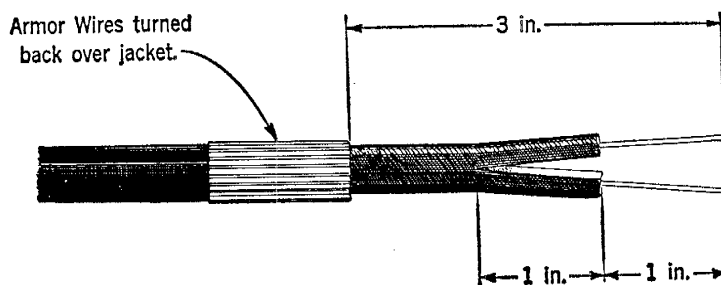

Fig. 1
**2.01** The conductors being spliced should be prepared as shown in the following sections except that one inch of insulation shall be removed from each conductor (see Fig. 1) rather than the one-half inch shown in these sections.